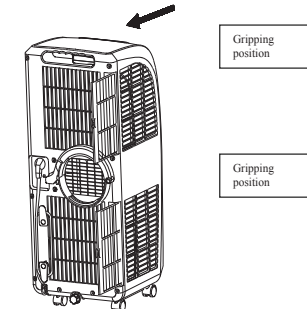

Figure 14
- 2). Grip the gripping position of the evaporator filter mesh and condenser filter mesh and take out the filter mesh gently in the direction shown by the arrow (as shown in Figure 14).